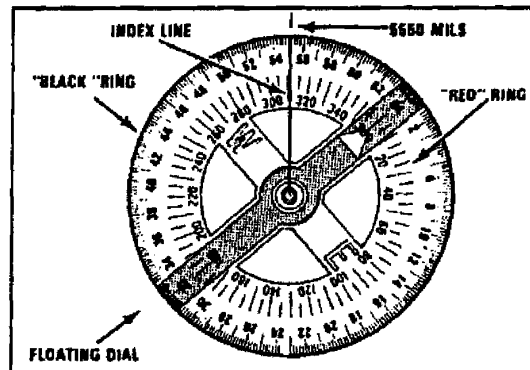

Figure C-20. Lensatic compass floating dial
- b. The outer, black ring of numbers and tick marks are used for finding direction in mils (figure C-20).